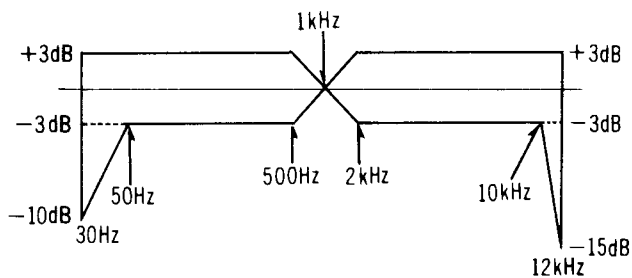

Fig. 16
4. Play the recorded tape, read output at each frequency on the VTVM and make sure that the measured value is within the range specified in the frequency response chart (See figs. 16 and 17).